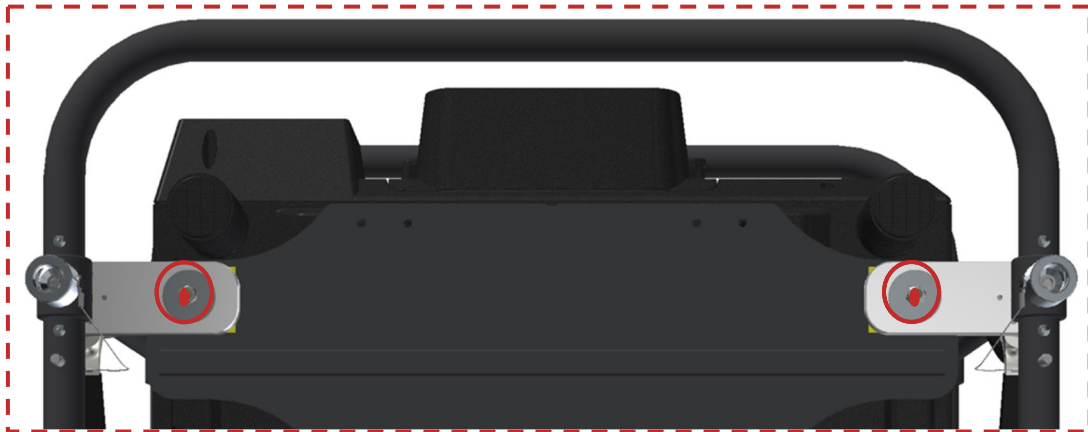
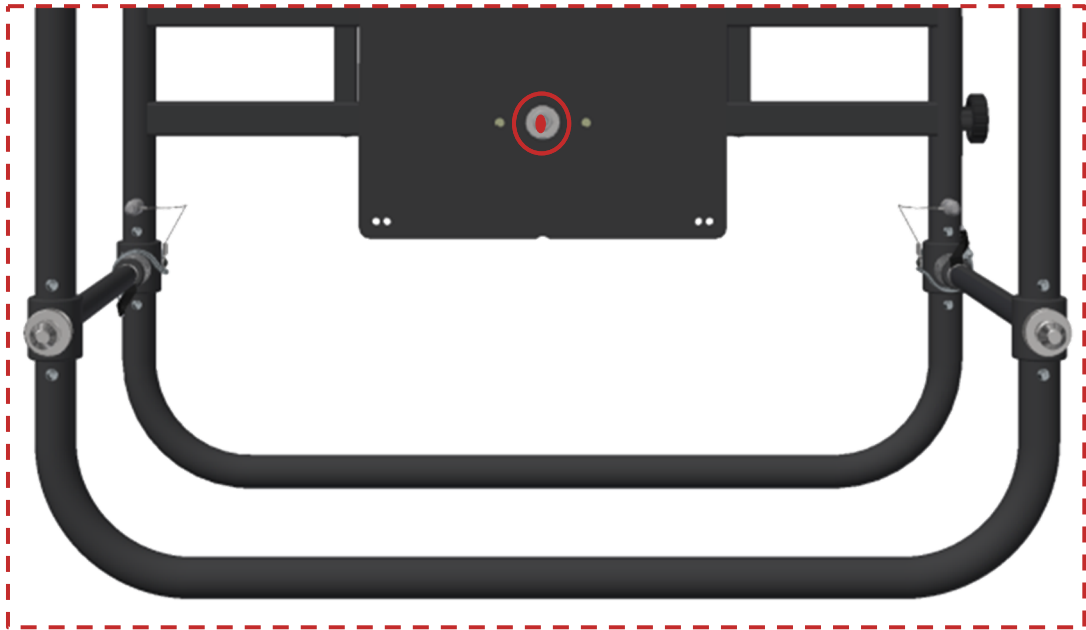

Figure 25 Nuts on front bottom side which are sealed with red colour wax
Figure 26 Nut on centre top side which is sealed with red colour wax
- On the three screws + nuts presented on the above two pictures (Figure 25 and Figure 26) red color sealing wax was applied to be sure that the nuts will always be on the same position and no one will try to tighten or loose them.
Except for the three nuts described on the previous section (see Figure 25 and Figure 26), please control, with corresponding tool, that all the other screws are properly tightened.